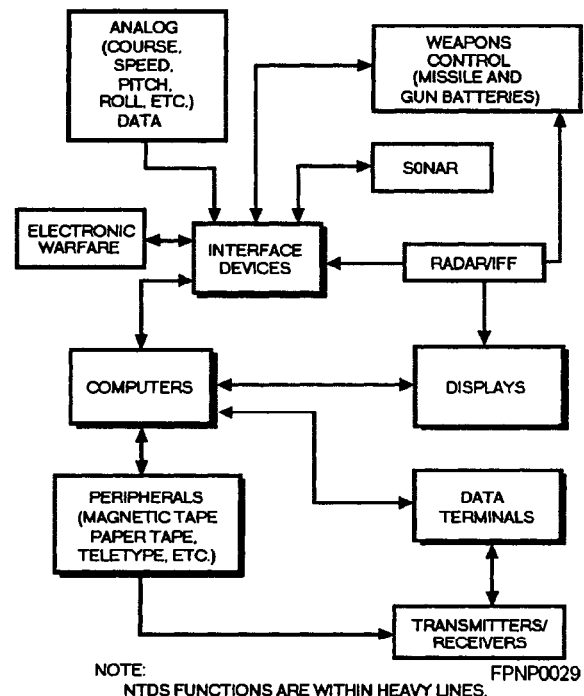

Figure 1-6.—Simplified block diagram of a tactical data system (CDS/NTDS).
The data these subsystems generate and feed back to the data processing subsystem is stored, processed, and distributed by the operational program. The computer is part of the data processing group and coordinates the operations within CDS/NTDS and makes the information available to other major subsystems within combat systems: radar/IFF, weapons (guns, missiles, and underwater), electronic warfare, and navigation. The CDS/NTDS is a real-time system. The type of computer used in a tactical data system is a mainframe such as the AN/UYK-7(V) or AN/UYK-43(V) computer. The number of computers used in a tactical data system depends on the class of ship and its configuration/setup. Figure 1-6 is a portion